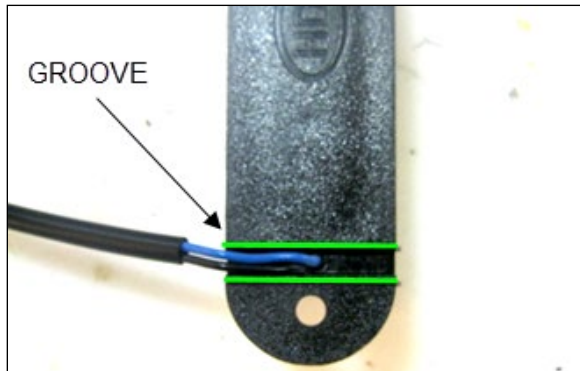

FIGURE 119: ROUTE THE WIRES IN THE GROOVE UNDER THE SEALED UNIT BODY
4. Install the new fog light pod on the pod support with the existing screws and lockwashers (Figure 119).